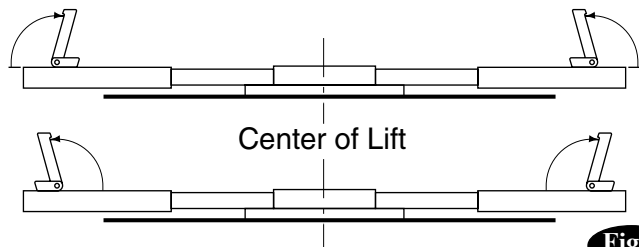

Fig. 5
- E. Rotate front and rear adapter to oppose each other when using the high step adapter and/or any auxiliary height extending adapter, Fig. 5.